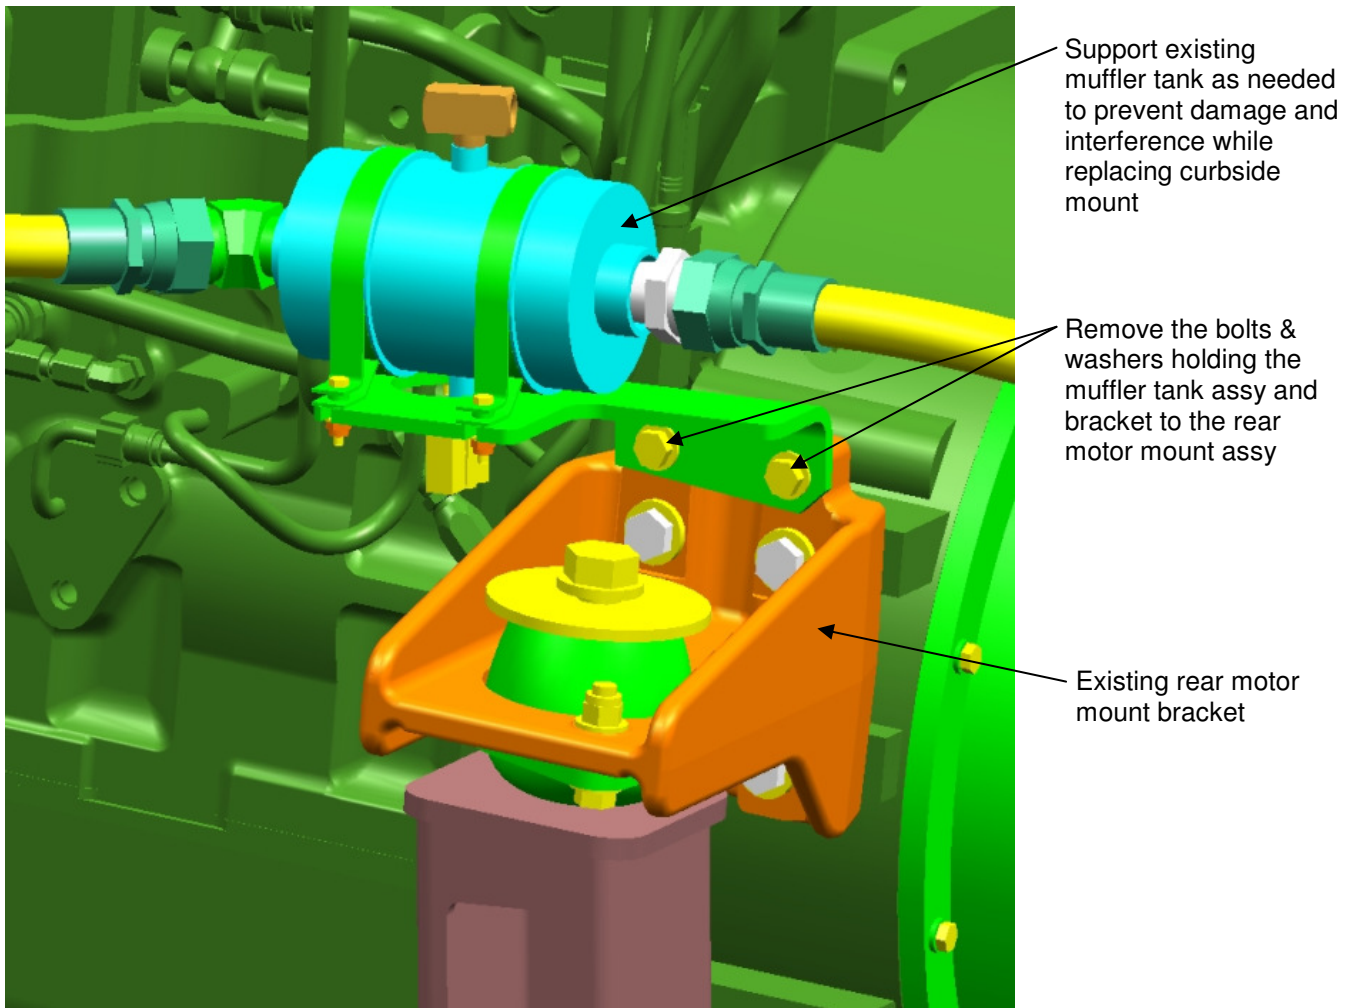

Figure 1: Muffler Tank & Motor Mount Bracket
5. Remove the bolts and washers (qty 2) mounting the muffler tank assy bracket to the motor mount bracket and set aside for reuse. Secure the muffler tank assy to prevent damage and/or interference when removing the motor mount bracket. This step is for the curbside only. See Figure 1.